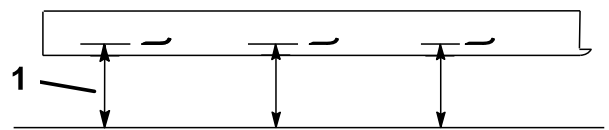

Figure 53
2. Measure from a level surface to the cutting edge, position A, of the blades (Figure 53).